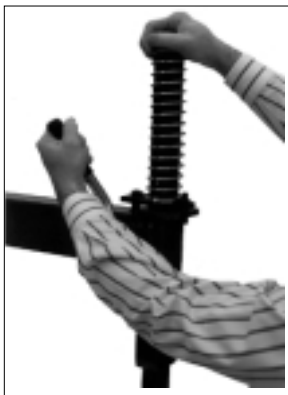

Figure 6 - Position Mount/Demount Tool
- Move the swing arm into position. Pull the locking handle forward to release the slide. Push down on the top of the vertical slide to move the demount head into contact with the rim edge. Push the locking handle back to lock the slide into place. As the slide is locked, the mount/demount head will move upward approximately 1/8 inch from rim edge (Figure 6).